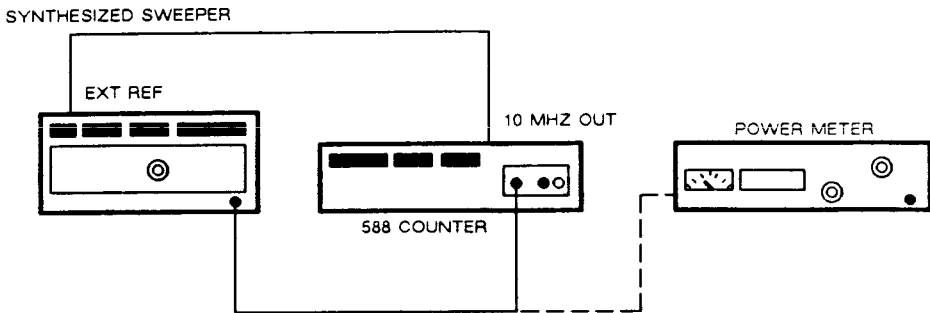

Figure 4-6. Band 1 Sensitivity Test Setup
1. Connect equipment as shown in Figure 4-6.